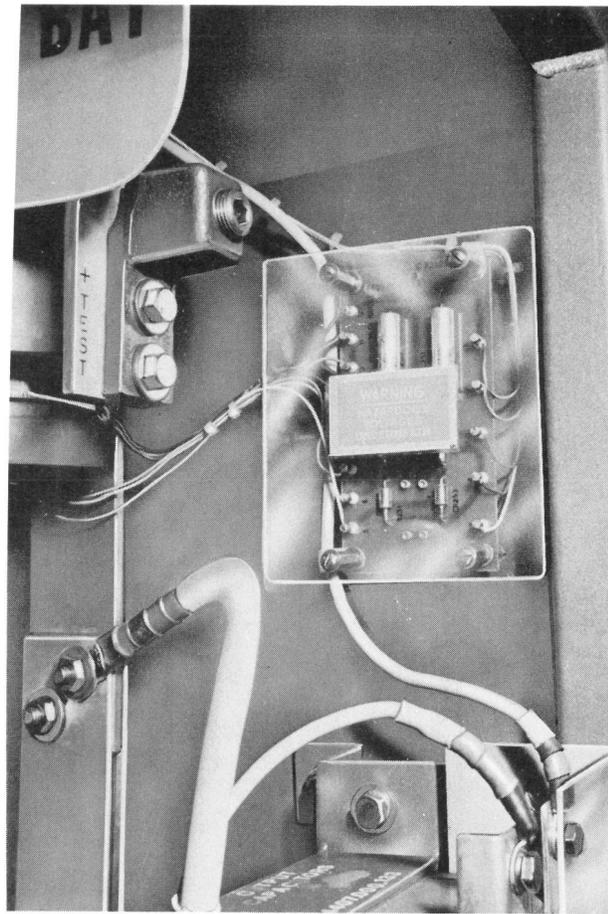

Fig. 7—Circuit Pack 250-DCCT Circuit
- ( 3) Remove the protective plastic shield from the CP-250 circuit pack. See Fig. 7.